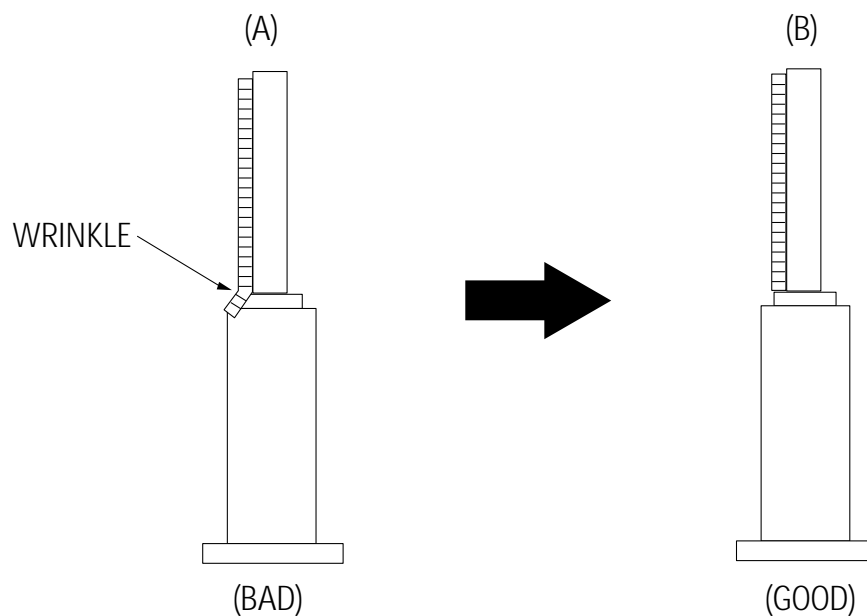

Fig. 4-9 Tape Guide Check
- 2) Confirm that there is no curl or wrinkle at the lower flange of tape guide as shown in Fig. 4-9 (B).
- 3) If a curl or wrinkle of the tape occurs, slightly turn the screw (A) tilt adjust on the ACE head ass'y.